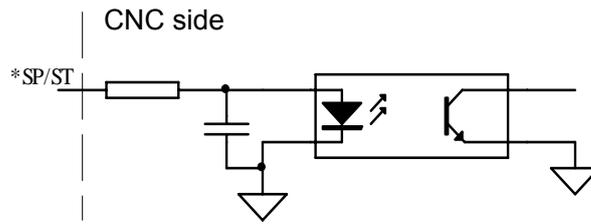

Fig.3-5-1
*SP/ST internal circuit is as Fig. 3-5-1: